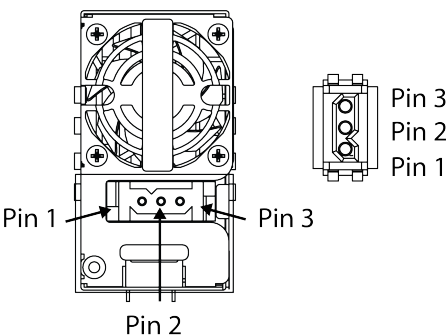

Figure 34: Connecting the DC Power Cord
3. Position the DC power cable connector so that the wide, flat side is closest to the fan, as shown in Figure 34. The DC power cable connector can only connect to the power supply one way.